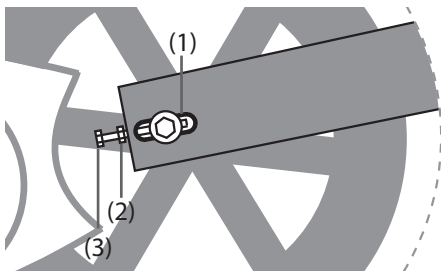

Figure 18
- 2: Loosen the bolts (1) on both sides of the cycle with a 19 mm wrench, see figure 18.
- 3: Loosen the nuts (2) on the counter bolt on both sides of the cycle using a 10 mm wrench, see figure 18.